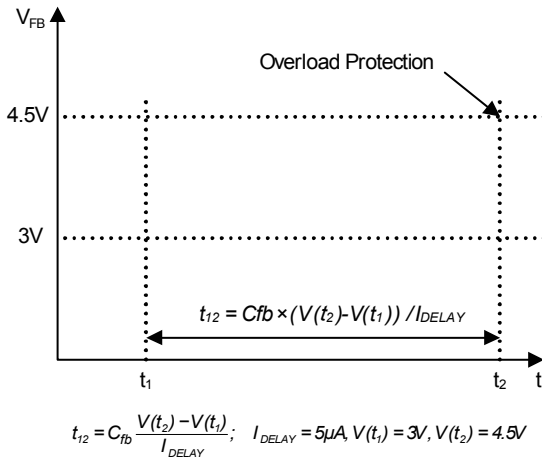

Figure 18. Overload Protection (OLP)
4.1 Overload Protection (OLP): Overload is defined as the load current exceeding a pre-set level due to an unexpected event. In this situation, the protection circuit should be activated to protect the SMPS. However, even when the SMPS is operating normally, the overload protection (OLP) circuit can be activated during the load transition. To avoid this undesired operation, the OLP circuit is designed to be activated after a specified time to determine whether it is a transient situation or a true overload situation. If the output consumes more than the maximum power determined by I_{LIM} , the output voltage (V_O) decreases below its rating voltage. This reduces the current through the opto-coupler LED, which also reduces the opto-coupler transistor current, thus increasing the feedback voltage (V_{FB}). If V_{FB} exceeds 3V, the feedback input diode is blocked and the 5 μ A current source (I_{DELAY}) starts to charge C_{FB} slowly up to V_{CC} . In this condition, V_{FB} increases until it reaches 4.5V, when the switching operation is terminated, as shown in Figure 18. The shutdown delay time is the time required to charge C_{FB} from 3V to 4.5V with a 5 μ A current source.